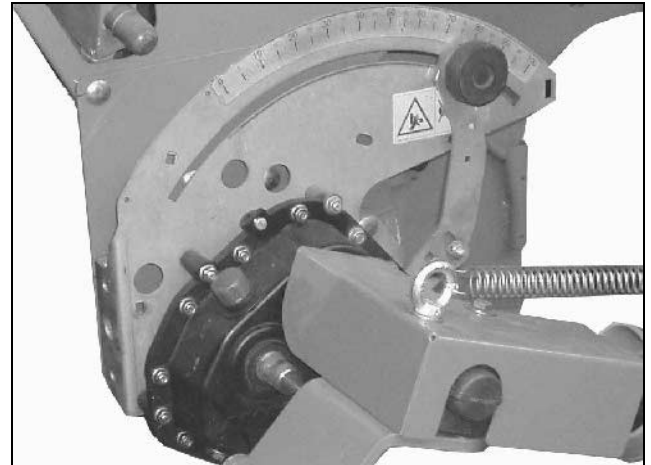

Fig. 23
- the gearbox setting lever (Fig. 23/2) is manually adjusted. The higher the scale figure is, the bigger the seed rate will be.
- the setting motorstellt (Fig. 23/1) adjusts the gearbox setting lever I (Fig. 23/2) (option).